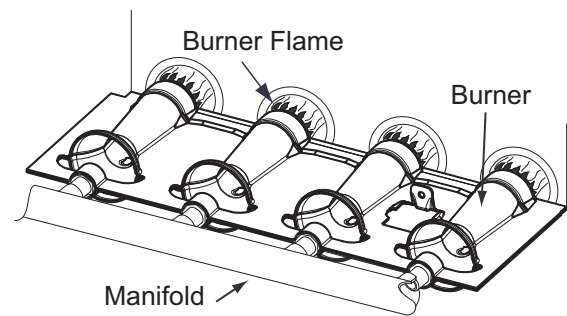

Fig. 28 – Burner Flame Adjustment
5. Start your furnace and observe its operation. Watch the burner flames to see if they are clear blue, almost transparent. See Fig. 28. If you observe a suspected malfunction, or the burner flames are not clear blue, call your dealer.